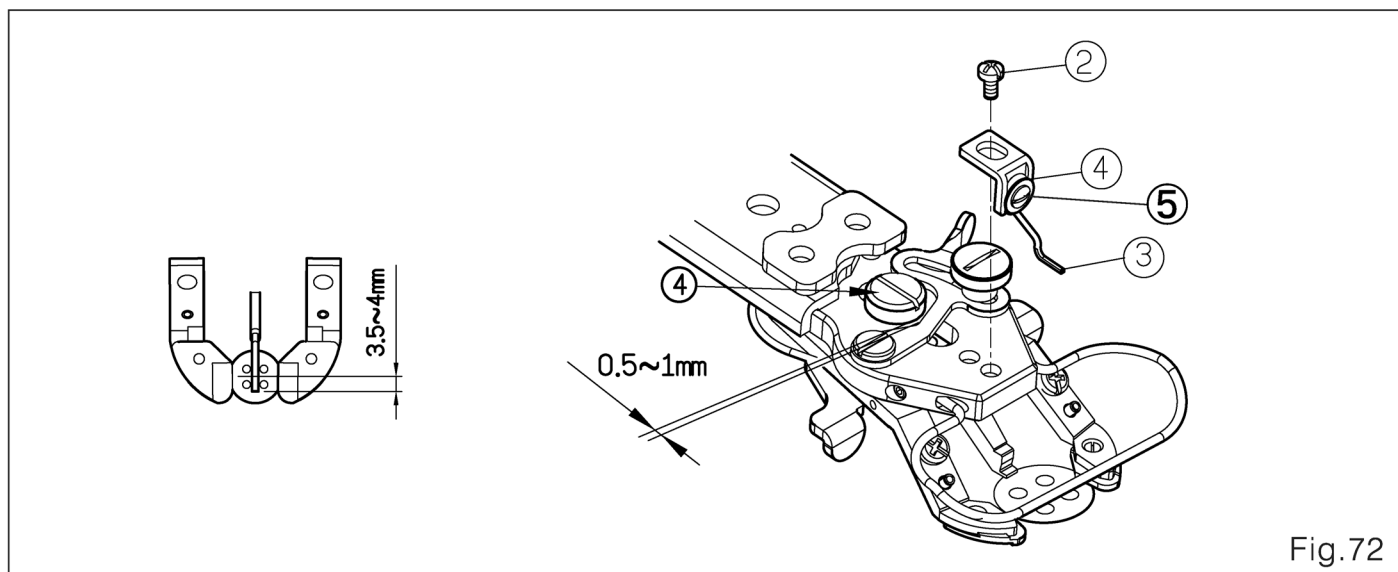

Fig.72
12. Ajuste a mola auxiliar (Fig.72)